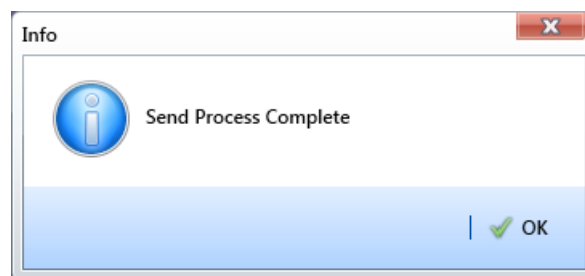

Figure 12-14. Send Process Complete
- 20 When a message displays confirming the send process is complete, click **OK** to close the message (Figure 12-14). If you selected to send the survey file to the Allegro, PCS Axis sends the survey file to the *PSData* folder on the Allegro.